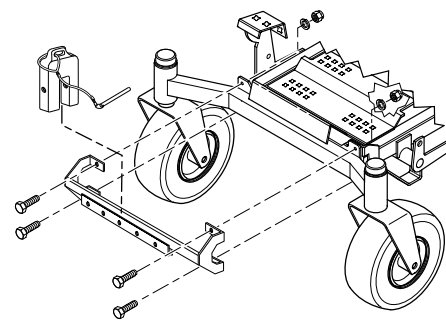

FIGURE 3-6
14. Using the weight support bar as a guide, identify the four corresponding mounting holes, and the existing hardware that will need to be removed in order to secure the weight support bar to the front of the machine as shown. See Figure 3-6.
15. Install one 7/16-14 x 1-3/4" hex head bolt into each of the four mounting holes in the weight support bar, and through the matching holes in the caster support weldment. Secure this assembly to the front of the machine using the 7/16-1/2" x 1-1/4" x .083" flatwashers, and the 7/16-14 elastic stop nuts. Torque hardware to 59 ft. lbs. See Figure 3-6.